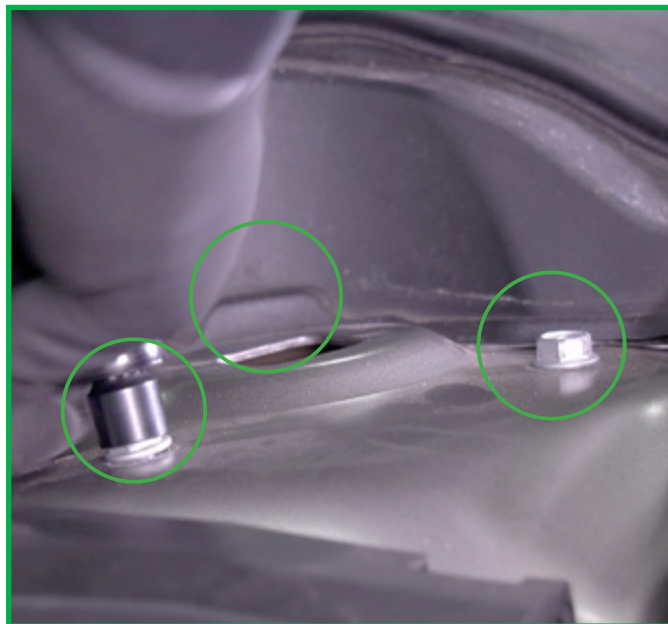

FIGURE 10
6. Remove the three (3) top mount bolts under the hood. (Figure 10)